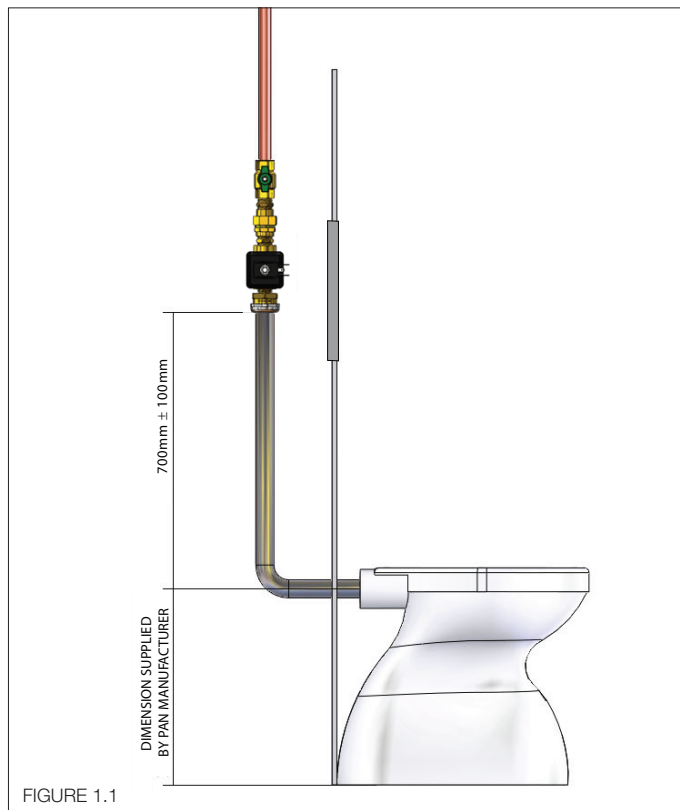

FIGURE 1.1
- 40mm flush pipe must be used (PVC adaptors to be supplied by the client if required) (See FIGURE 1.1)